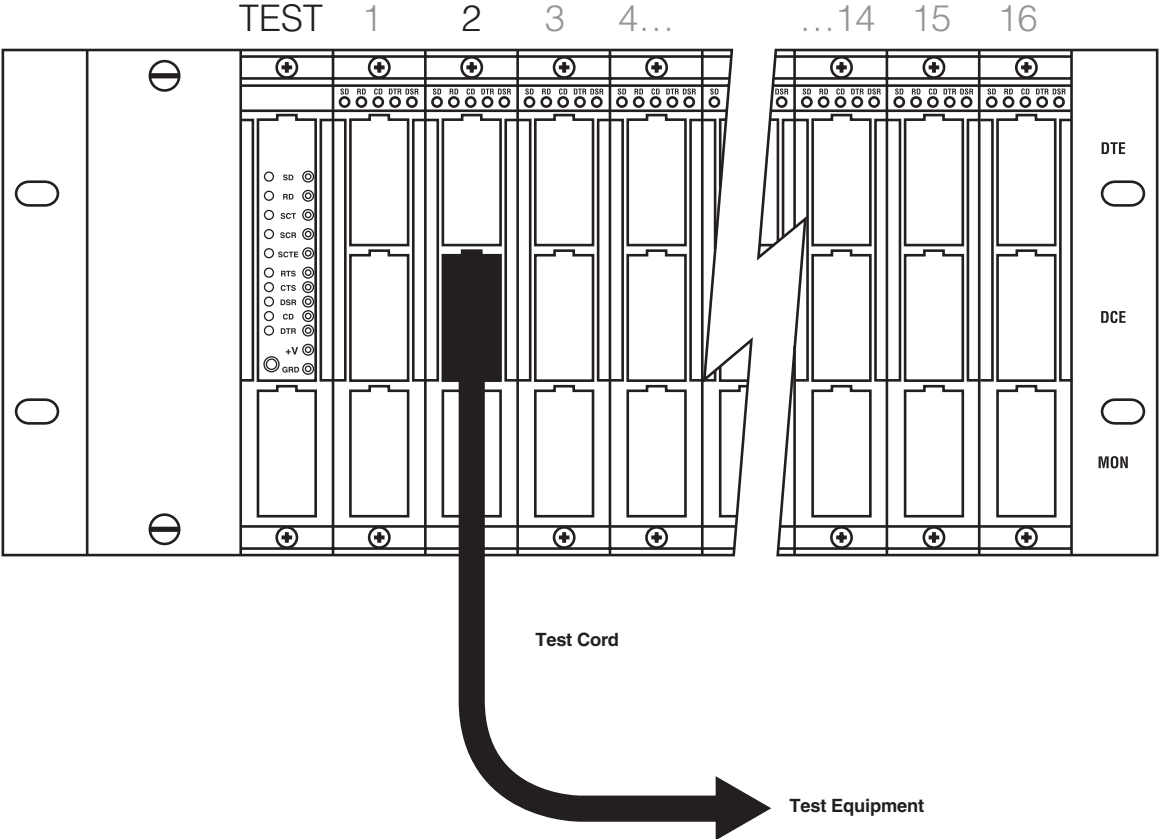

Figure 6-3. Patch-cord connection.
2. Connect the opposite end of the same test patch cord to the external test equipment (see Figure 6-3).